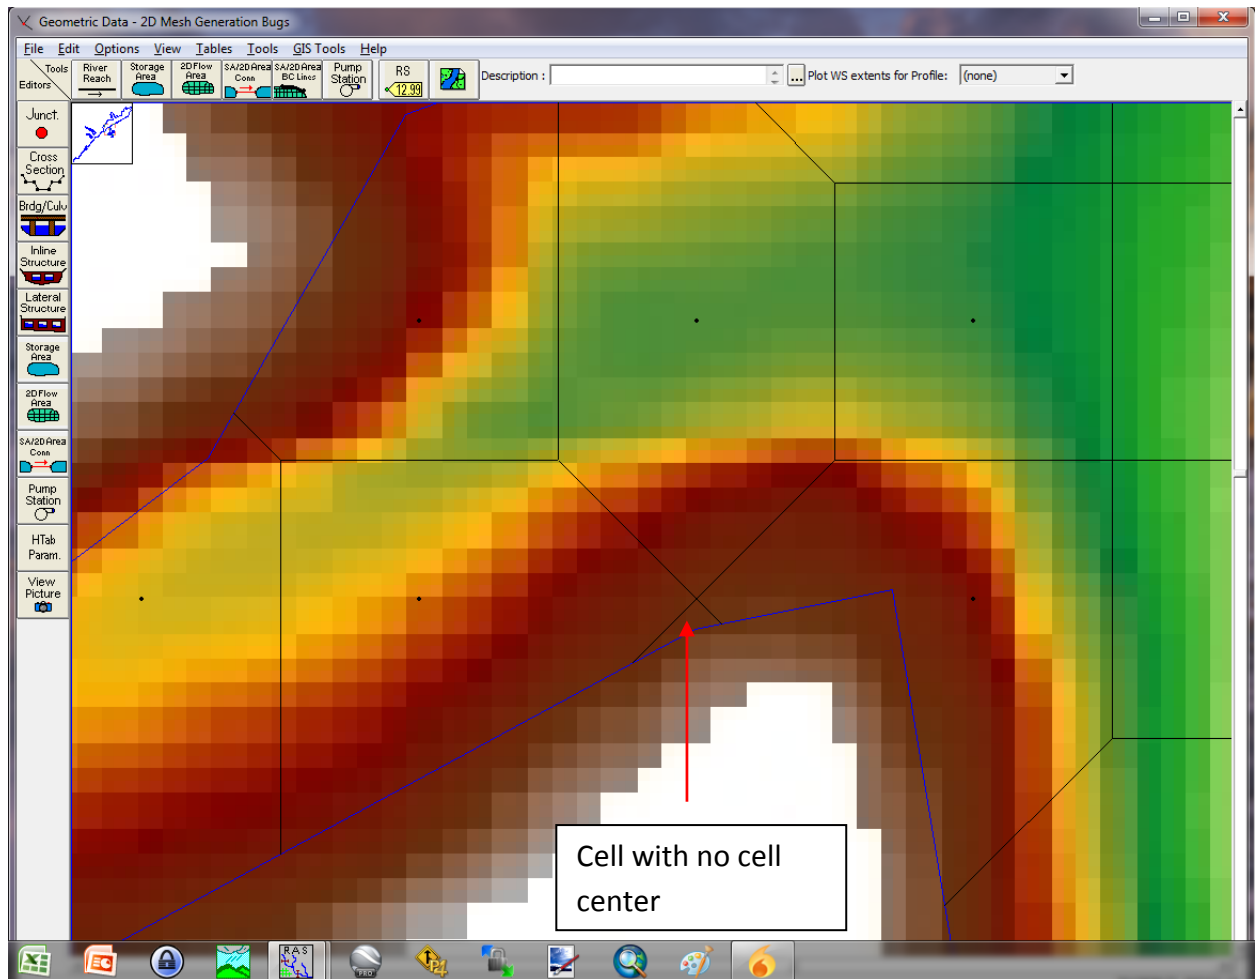

Figure 20. Example of a cell with no cell center.
- **Cell has no Cell Center:** Every computational cell must have one and one only cell center. On occasion the automatic mesh generator may create a cell with no cell center (Figure 20). To fix this move the 2D area boundary points, or cell centers.